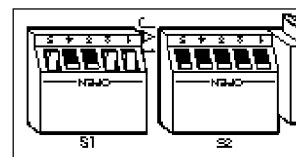

FIGURE 9B
Figure 9B shows the setting for non-standard probe calibration with non-temperature compensated stainless steel probe.
3. Set S1-“1” to the closed (down) position for a non-temperature compensated probe (Figure 9B).